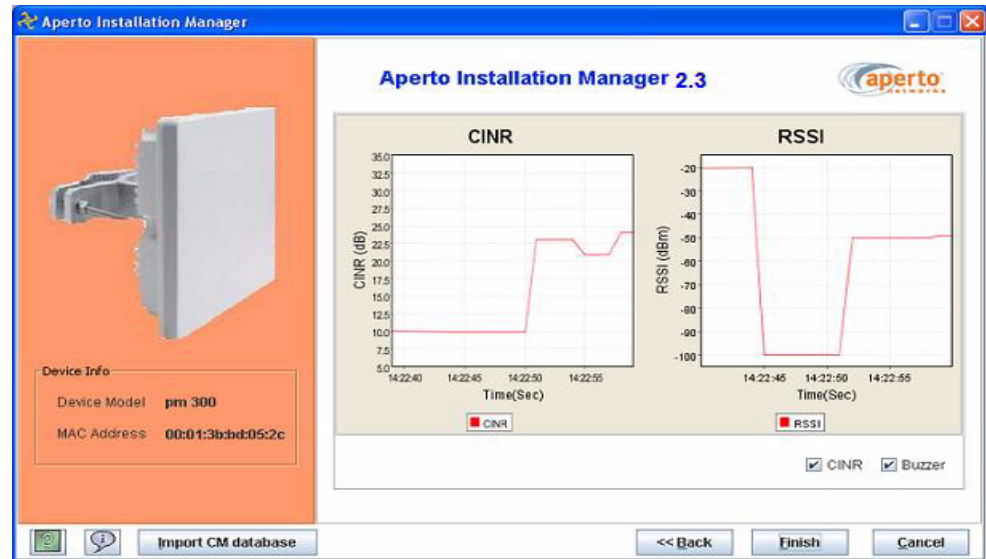

Figure 3-8 Alignment Window with CINR Graph
2. Once the Local Signal Strength value is maximized, click on the **View CINR** button to display the full window as shown in Figure 3-8. To achieve a link 16QAM 1/2 or better, make sure the receive signal level is -87 dBm and the CINR is greater than 8dBm.